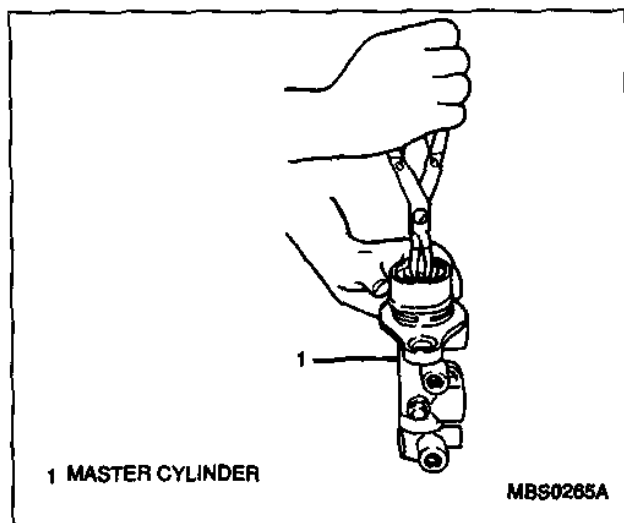

Figure 8—Removing Piston Stopper C-Clip
1. Piston stopper C-clip (Figure 8).